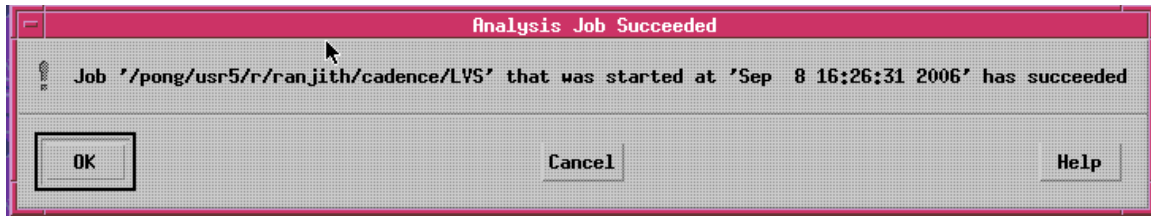

Fig. 23. Successful completion of an LVS check
- When the LVS check is successful, Fig. 23 should appear.